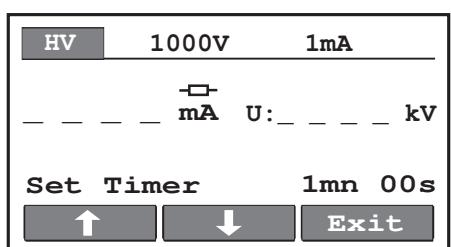

Fig.7. Timer value selection menu
■ Duration of the test (fig. 7)